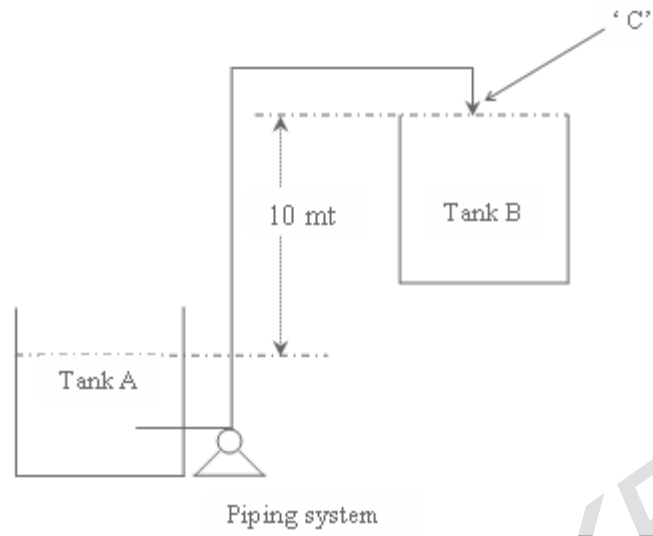

Figure 1:
7. Kerosene is flowing from tank 'A' to tank 'B' as shown in the figure 1 given below.